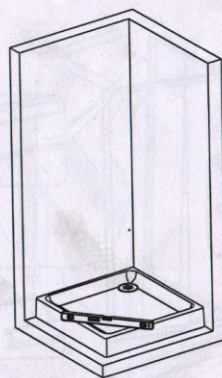

fig 1
1. Put the shower at the designated position and level it. (fig 1)